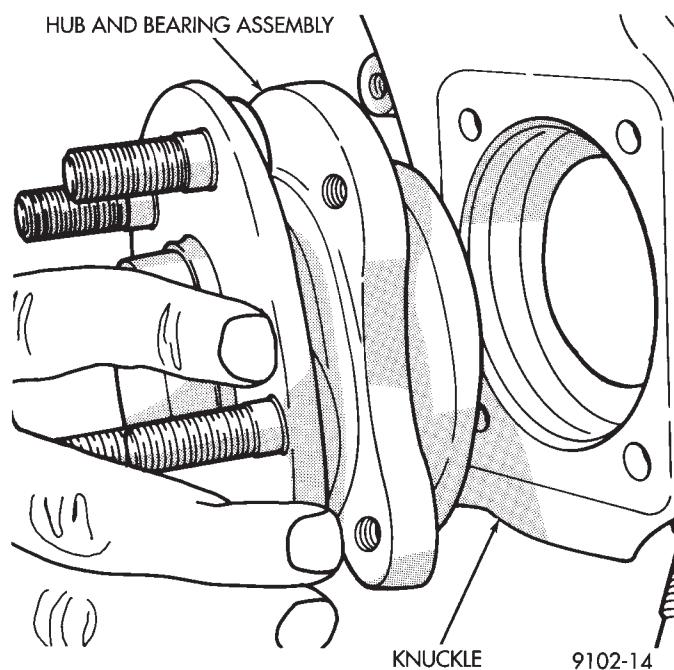

Fig. 10 Separate Hub and Bearing Assembly from Knuckle
(11) Remove the hub and bearing assembly from the steering knuckle (Fig. 10). **Replacement of the grease seal is recommended whenever this service is performed.**